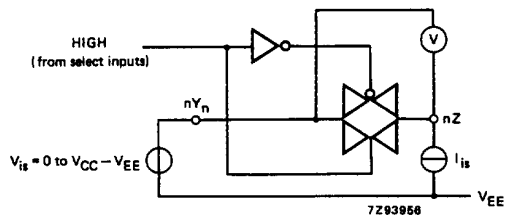

Fig.8 Test circuit for measuring R_{ON} .
- For test circuit measuring R_{ON} see Fig.8.